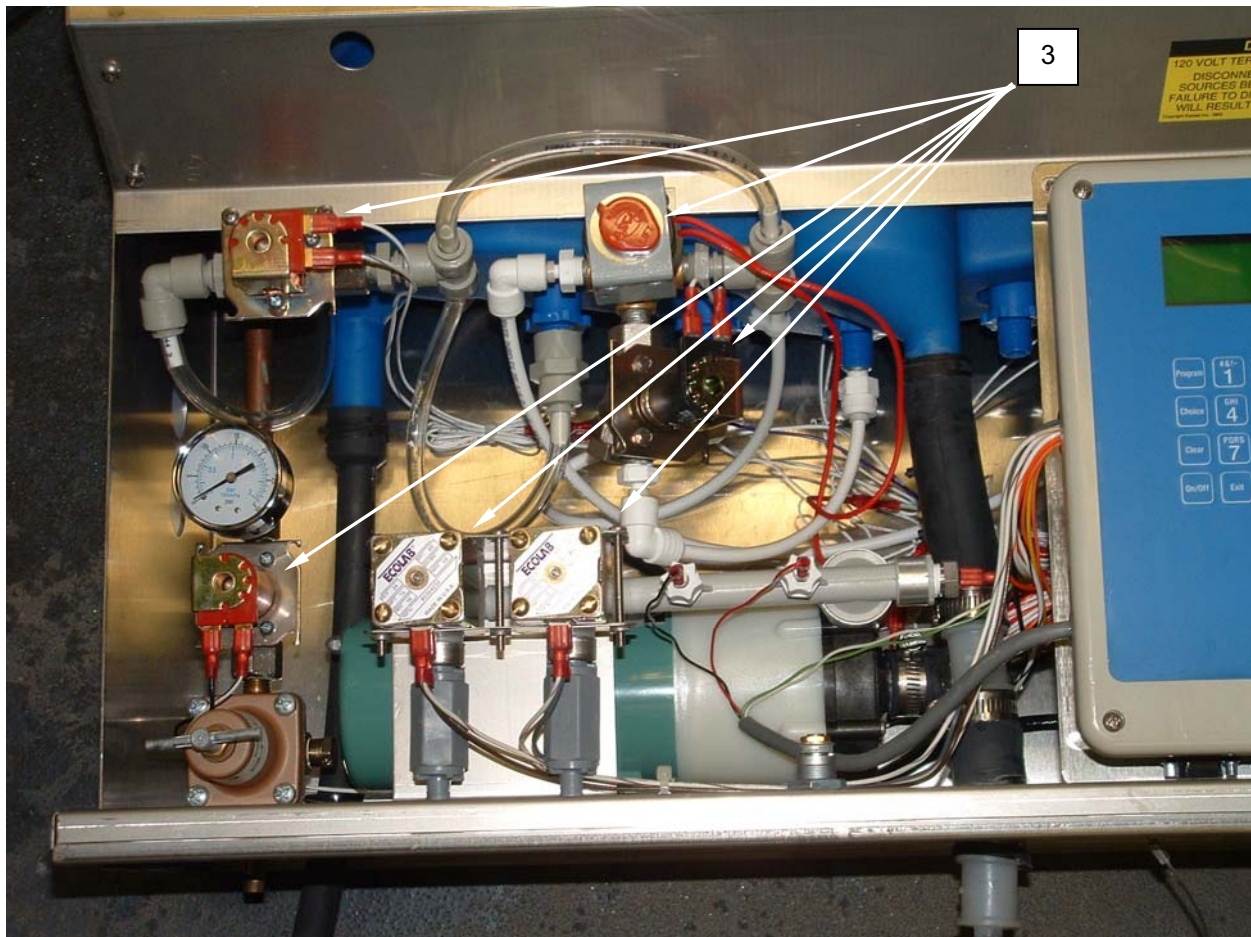

Figure 1. Test the Solenoids.
3. Tag and disconnect wiring from solenoid (**Figure 1, Item 3**) to be tested.
4. Use an ohmmeter to test solenoid (**Figure 1, Item 3**) for continuity.
5. Replace an open solenoid (**Figure 1, Item 3**).
8. Install cover (**Figure 1, Item 2**), connect power and monitor for normal operation.